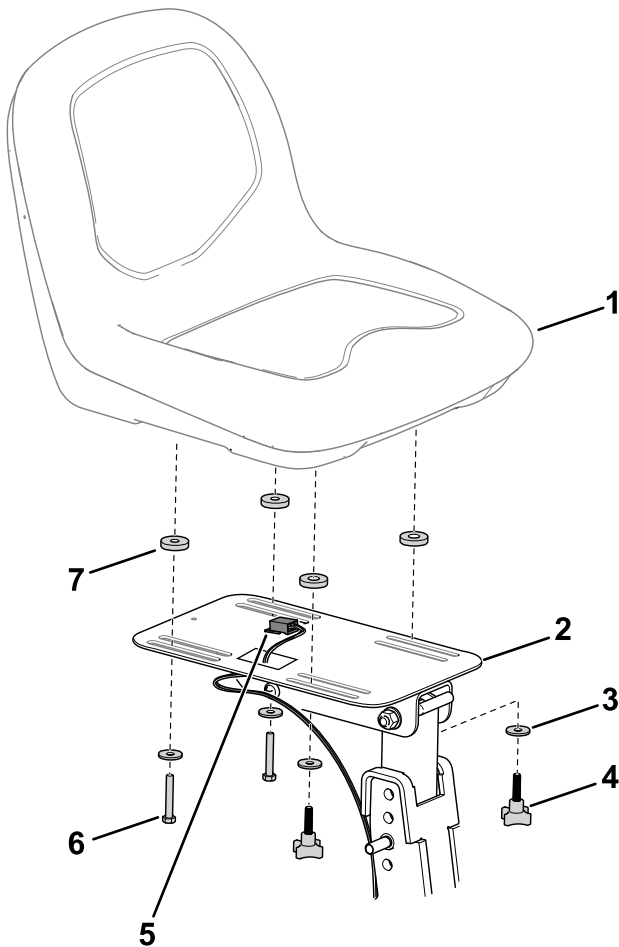

Figure 16
1. Unplug the wire-harness connector (Figure 16) from the seat.
2. Remove the hardware that secures the seat to the seat mount (Figure 16) and remove the seat.
4. Install the wire-harness connector (Figure 16) to the seat.
5. Use the previously removed hardware (Figure 16) to secure the seat and heat shield to the seat mount.